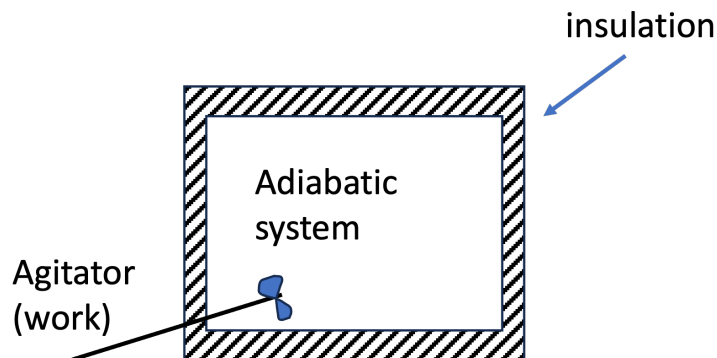

Fig. 9: Adiabatic system tank
- **Adiabatic:** Heat (defined soon) cannot cross a system boundary. However, *work* (also to be defined soon) can cross an adiabatic boundary. See Fig. 9.